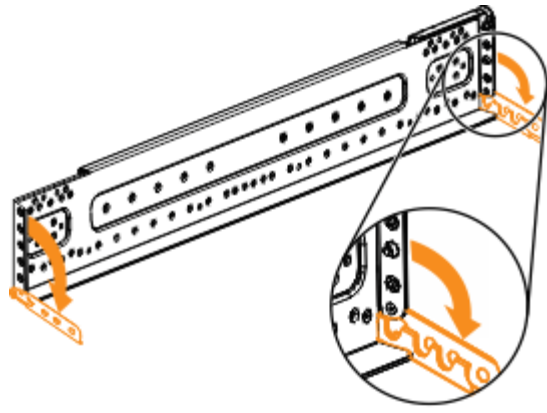

Figure 25. Opening the hinge brackets
4. At each end of the rail, grasp the tab **1** and pull *firmly* to open the hinge bracket. See Figure 25 on page 62.